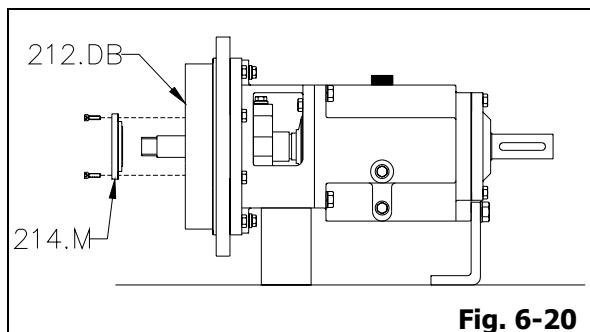

Fig. 6-20
- Remove all end ring bolts and lift off end ring for mechanical sealing (214.M) assembly from stuffing box cover (212.DB) (Fig. 6-20).